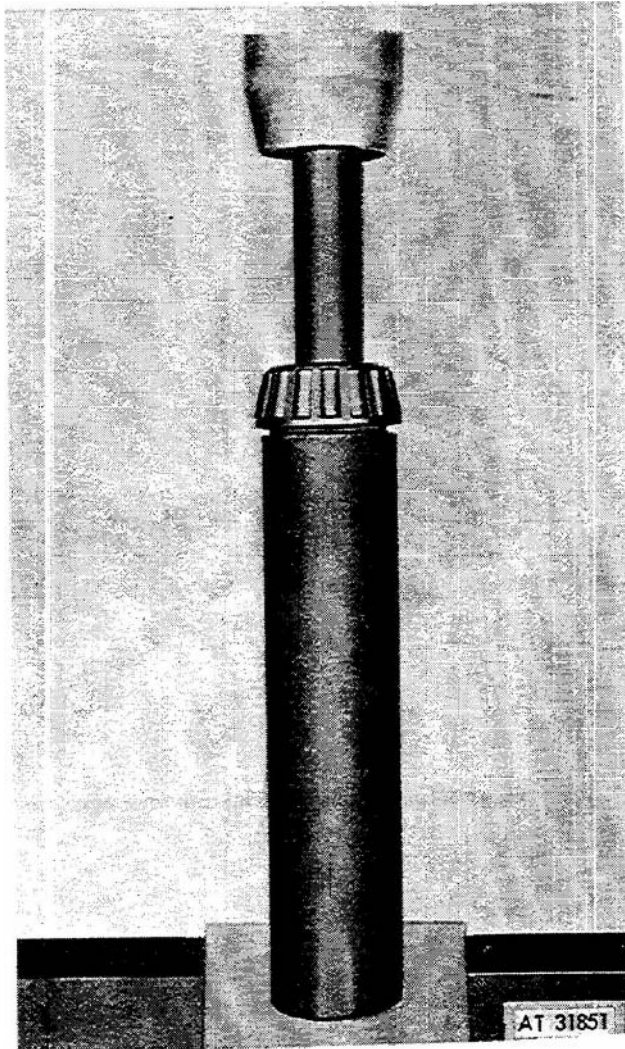

Figure 3-55. Pressing bearing from intermediate shaft.
(23) Press bearing (35) from intermediate shaft (46) as shown in figure 3-55.